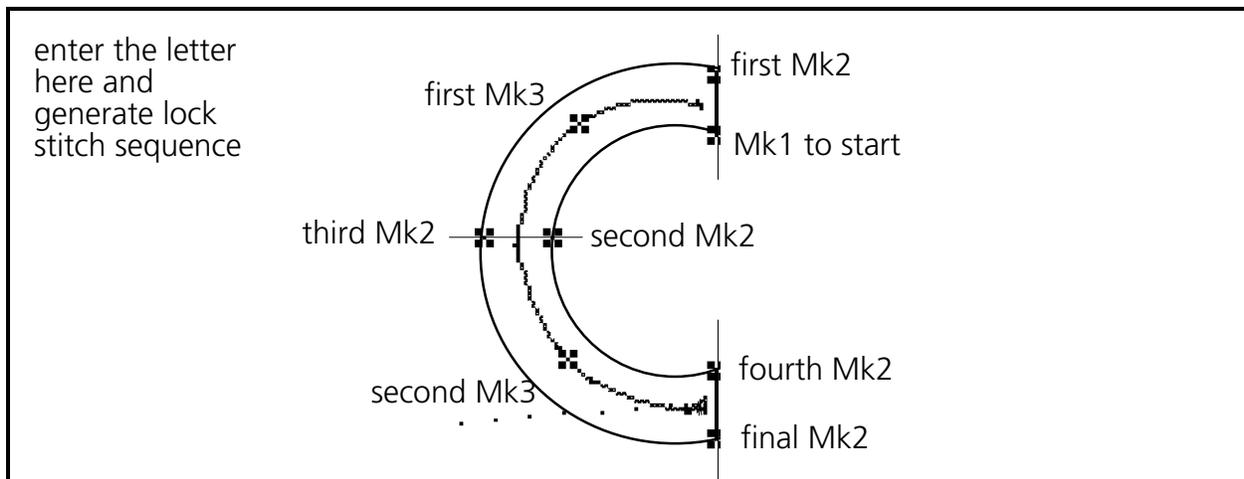

Figure 6-43
1. Go to the start of the inside line of the top of the letter **c** and enter the Mk1 to start (see Figure 6-43).
2. Enter the first Mk2 at the start of the outside line of the top of the letter (see Figure 6-43).
3. We plotted the letter into two arc segments since the circumference of the letter **c** is more than 180 degrees rotation. For uniformity the segments are equal. Enter the first Mk3 (for the first column segment) in the middle of the first segment, half way from the top end to the center of the letter (see Figure 6-43).
4. Enter the second Mk2 to define the end of the inside line of the column at the midpoint of the letter (see Figure 6-43).
5. Enter the third Mk2 to define the end of the outside line of the column at the midpoint of the letter (see Figure 6-43).
6. Enter the second Mk3 (for the second column segment) in the middle of the segment, half way from the center of the letter to the bottom end of the letter **c** (see Figure 6-43).
8. Finish the column with a Mk2 at the end of the outside line of the arc (see Figure 6-43).